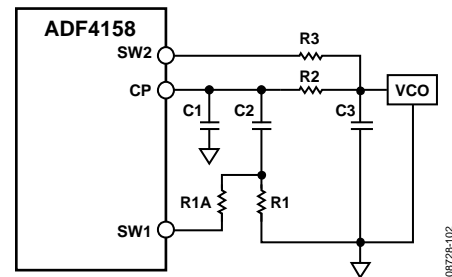

Figure 47. Fast-Lock Loop Filter Topology—Topology 2
- Connect an extra resistor (R1A) directly from SW1 (see Figure 47). The extra resistor must be selected such that the parallel combination of an extra resistor and the damping resistor (R1) is reduced to $\frac{1}{4}$ of the original value of R1.